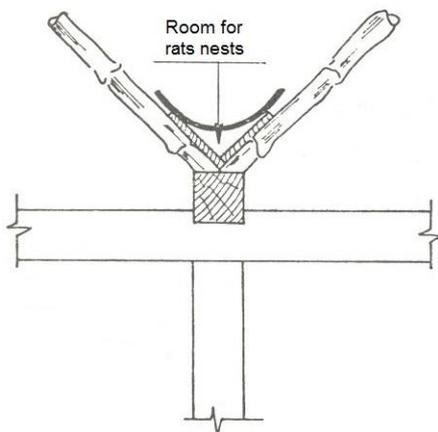

Figure 3a. Wrong way to build a trough gutter.
- i. When the boards supporting the gutter are incorrectly placed, rats have an excellent opportunity for nesting under the zinc guttering (Fig. 3a).
- ii. Hollow bamboos that are not properly connected to the gutter purlin or the valley are prime targets for rats (Fig. 3a).